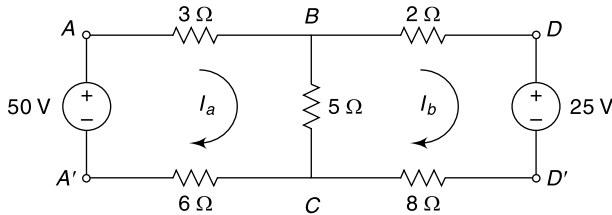

Fig. 4.119 Circuit of Ex. 4.88
4.88 In the network shown in Fig. 4.119 determine all branch currents and the voltage across the $5\ \Omega$ resistor by loop current analysis.